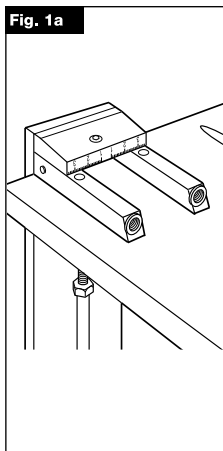

Fig. 2
- Setting pocket hole centres - **(Fig. 2)**